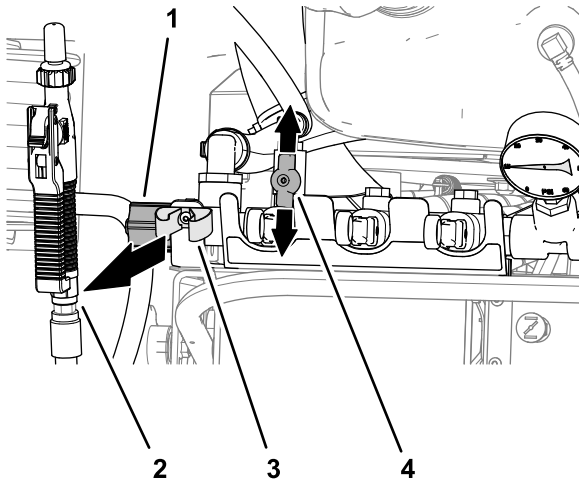

Figure 47
3. Remove the spray wand from the tool clip at the left side of the machine (Figure 47).
5. Open spray wand-shutoff valve (Figure 47).
6. Use the throttle valve (Figure 47) to adjust the spray-system pressure as follows:
9. Close the spray wand-shutoff valve, shut off the spray pump, and insert the spray wand into the tool clip (Figure 47).